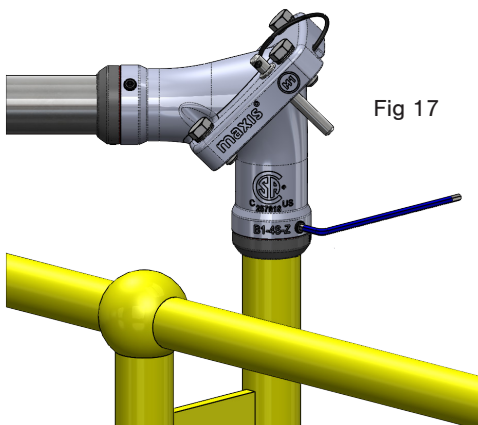

Fig 17
- Adjust the Maxis™ joint to desired direction and tighten the bottom grub screws firmly. (Fig 17)
- If required, the lowering position can be altered at this stage. If altering is required, loosen the bottom grub screws, reposition the direction and re-tighten grub screws firmly. Check lowering direction again, tighten bottom grub screws fully, refer torque settings. (Fig 17)